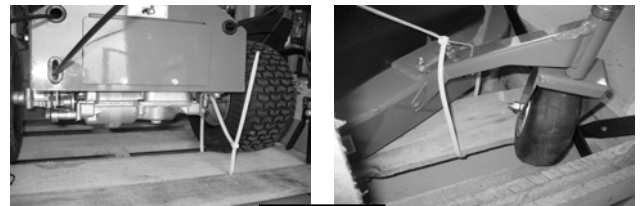

Fig. 11-1
1. Cut and remove the nylon retaining straps (see figure 11-1).